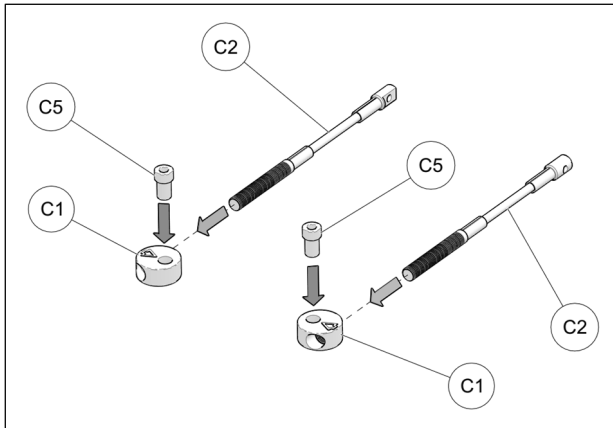

Fig. 16
9. Assemble steering limiter cables (**C2**), aluminum disks (**C1**) and step spacers (**C5**) as shown on Fig. 16